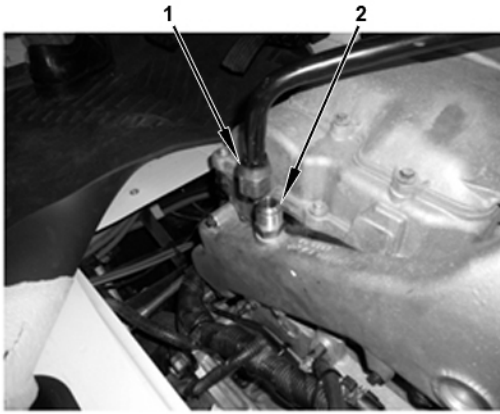

Figure 7 Cab Heat Tube
10. Disconnect cab heat tube (1) from heat tube nipple (2) on coolant manifold (Figure 7).